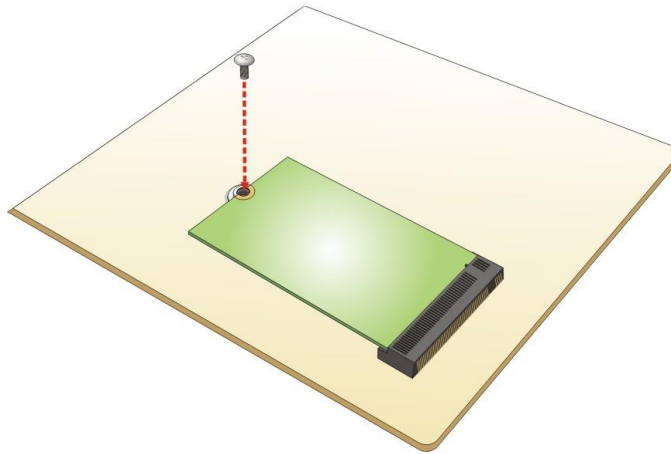

Figure 3-10: Securing the M.2 Module
- Step 4:** Secure the M.2 module with the previously removed retention screw (**Figure 3-10**).